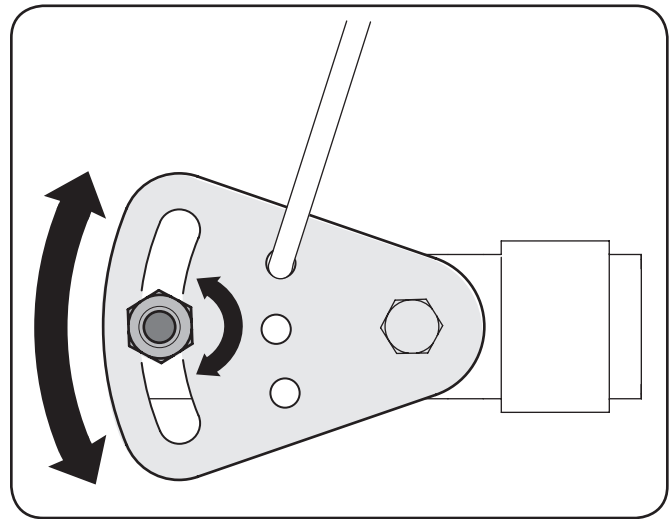

Figure 6-6
If the full range of speeds (forward and reverse) cannot be achieved, refer to the Figure 6-6 and adjust the shift cable as follows:
2. Loosen the hex nut on the shift cable index bracket. See Figure 6-6.